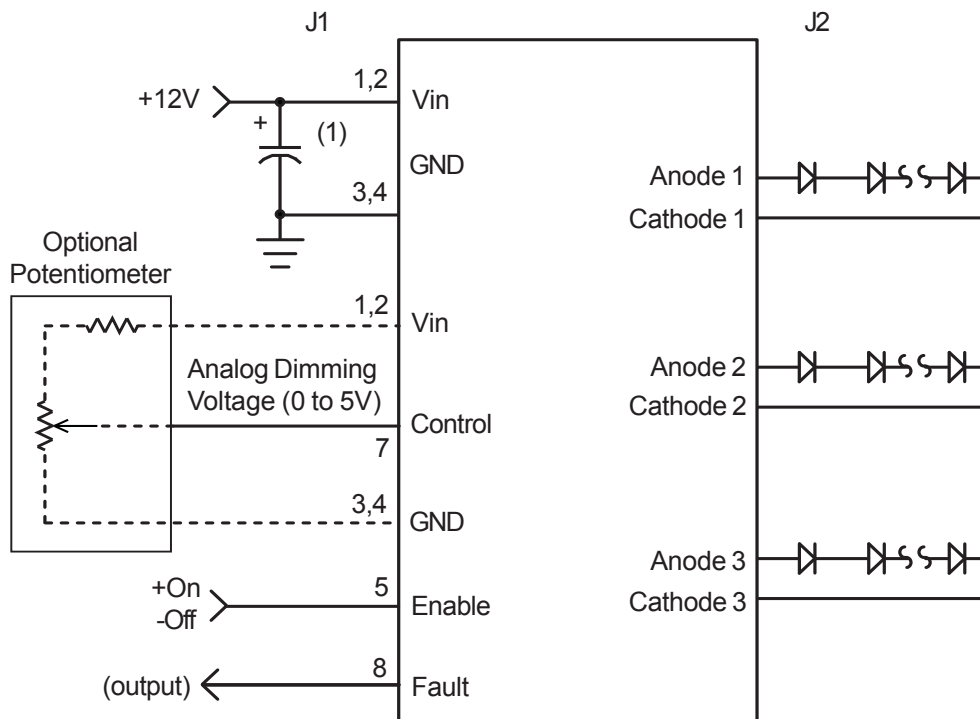

Figure 1
- OPERATION: Onboard PWM configuration as shown in Figure 1 allows the user to control display brightness by controlling the onboard PWM generator. The user is responsible to provide an analog control signal. A dimming ratio up to 255:1 is possible with this configuration.